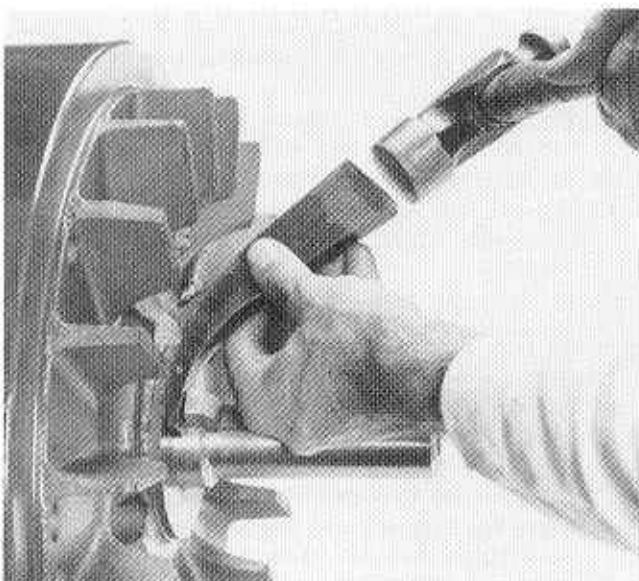

Figure 5.16 Removal of Flywheel Key Using a Tapered Key Drift.
- (1) Remove the six retaining screws and lift off the cooling fan.
- (2) Withdraw the flywheel key with a tapered key drift (Figure 5.16) which is obtainable from Petters Limited or their representatives. It is advisable to support the head of the key by placing a spacer in the key way of the crankshaft during removal. This stops the key from bending and digging into the crankshaft.
- (3) In some instances it may be found that the flywheel is tight on the crankshaft due to dirt or corrosion. Clean the exposed portion of the crankshaft and lubricate with penetrating oil. Position a block of wood through the crankcase in such a manner so that the crankshaft will only partially turn. Turn the flywheel sharply in either direction so that the crankshaft strikes the wood block. The inertia of the flywheel will break its hold on the shaft allowing removal in a screw like manner.